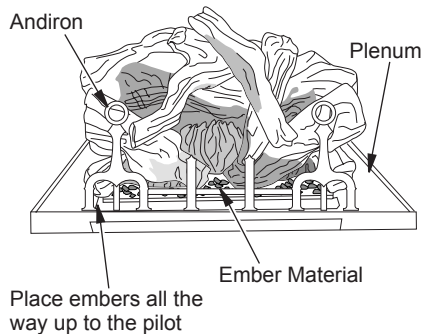

Figure 42 - Placing Ember Material on Burner
1. Pull ember material apart into pieces no larger than a dime. Place these pieces loosely and sparingly directly onto exposed front section of burner (see Figure 42). This will create the glowing ember appearance as flame touches ember material. Do not block air slots by using too much ember material in one area. Place small pieces of ember material up to the pilot and cover all pilot ports. It is not necessary to use all of the ember material provided.